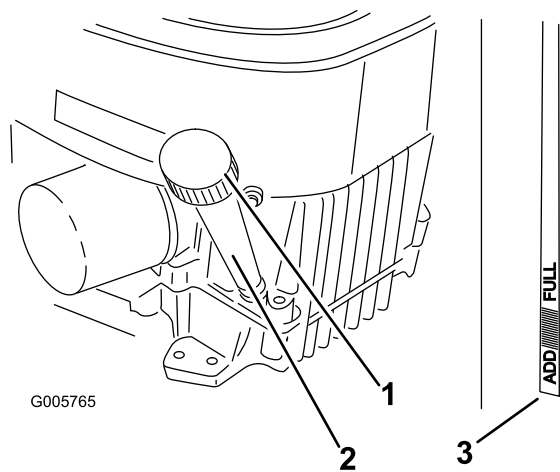

Figure 36
4. Clean around the oil dipstick (Figure 36) so that dirt cannot fall into the fill hole and damage the engine.
5. Unscrew the oil dipstick and wipe the end clean (Figure 36).
- Change the oil filter, if necessary (Figure 36).
- Clean around the oil dipstick and unscrew the cap (Figure 36).
- Slowly pour approximately 80% of the specified oil into the filler tube (Figure 36).